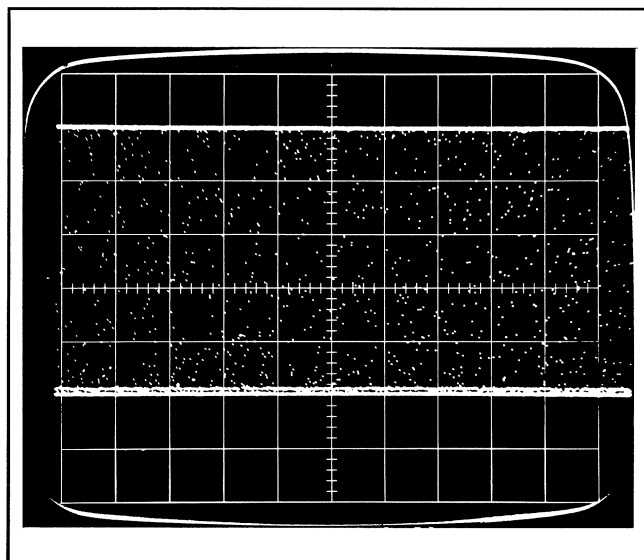

Fig. 3. Unity loop gain set at the top of the display.
b. Disconnect the BNC coaxial cable at the Type 284 Trigger Output connector. Turn the Type 3T6 Trigger Sensitivity and Recovery Time controls for a free run display as in Fig. 3.